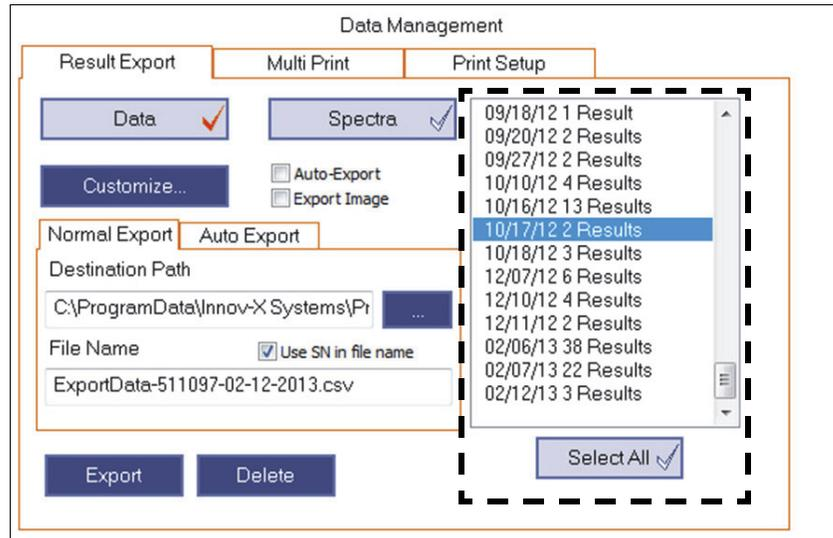

Figure 1-28 Data Management – Results list
11. To delete results sets from the export list, select one or more result records from the **Results** list (see Figure 1-28 on page 23).